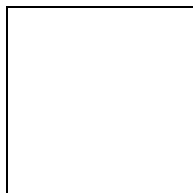

Figure 052-227-1225-7
13. Place the suspension control lever in the SPRUNG position (Figure 052-227-1225-7).